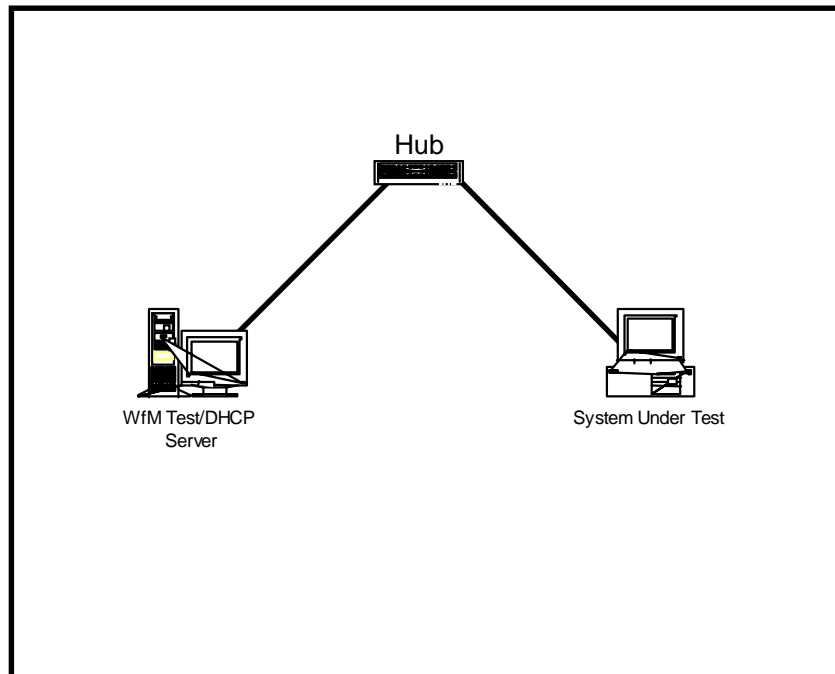

Figure 3. Optional Network Configuration for Client Test
- A server platform running a Windows NT (version 4.0 or higher) server OS with DHCP services enabled and configured with a user-defined DHCP address scope. Additionally, this server will host the WfM v2.0 Self-Test ToolKit, so SNMP Services must be installed prior to WfM v2.0 Self-Test ToolKit installation. This server is labeled "WfM Test/DHCP Server" in Figure 3.